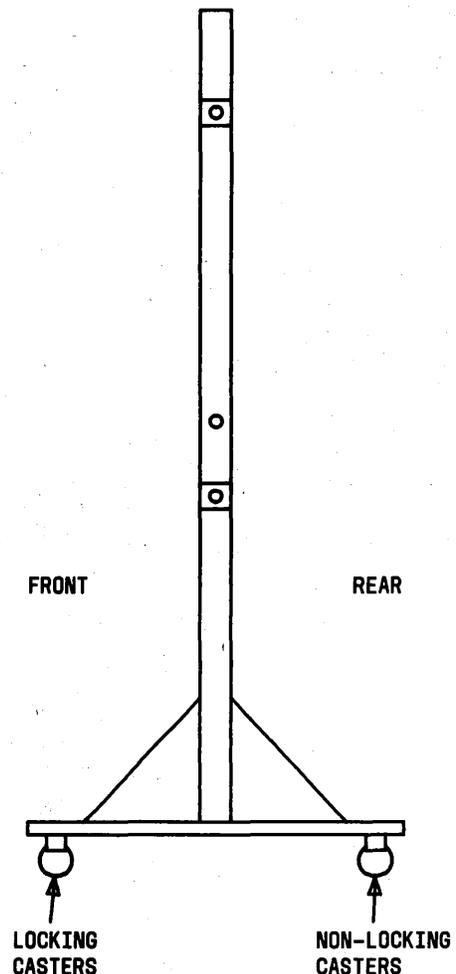

Fig. 25—Portable Stand—Side View
5.06 Mount blackboard on *front* of portable stand. The front of the stand has locking casters (Fig. 25).